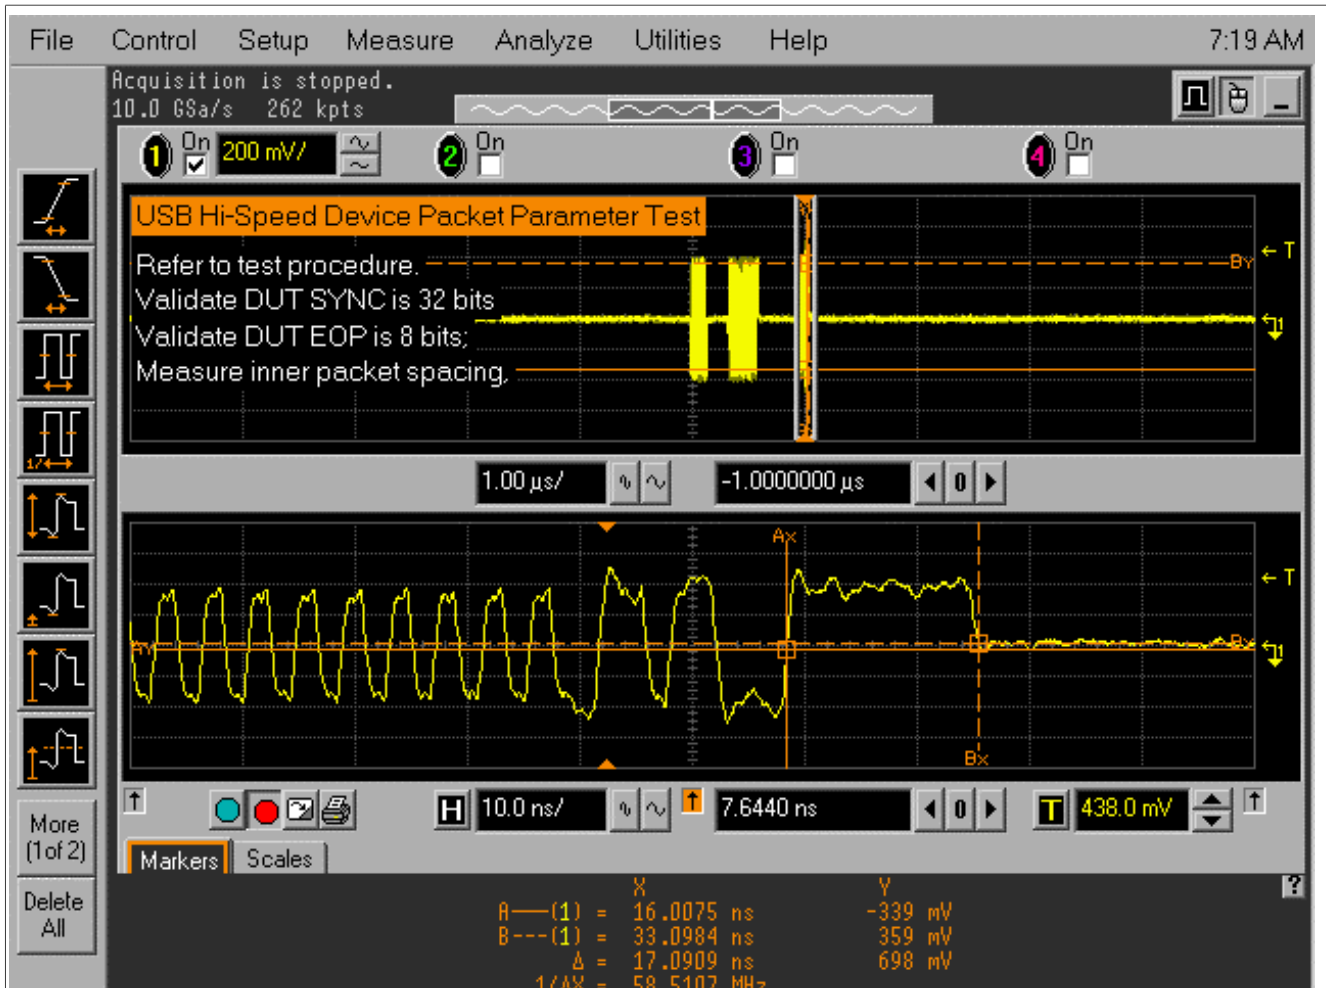

Figure 37. EL\_25 Device EOP Length Waveform
5. Select **Single Step Set Feature** from the Device Command window. Click **EXECUTE** once. Oscilloscope will measure the sync field length (number of bits) of the third (from device) packet (**EL\_21**), **EOP** (End of Packet) width (number of bits) of the third packet (**EL\_25**), inter-packet gap between the second (from host) and the third (from device in respond to the host's) packets (**EL\_22**), as shown in Figure 35 to Figure 37.